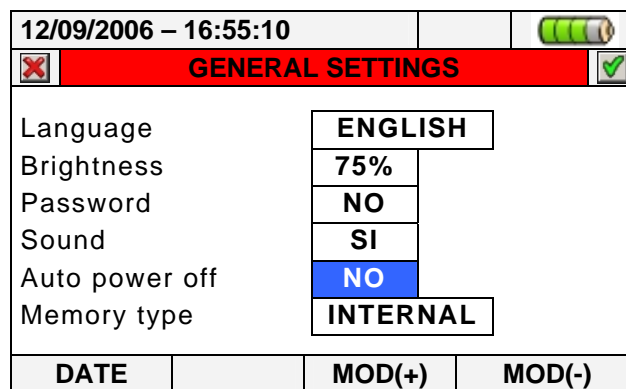

Fig. 15: Auto power off setting screen
1. Move the cursor using arrows keys on the field relative to “Auto power off”, marked with blue background, see Fig. 15: